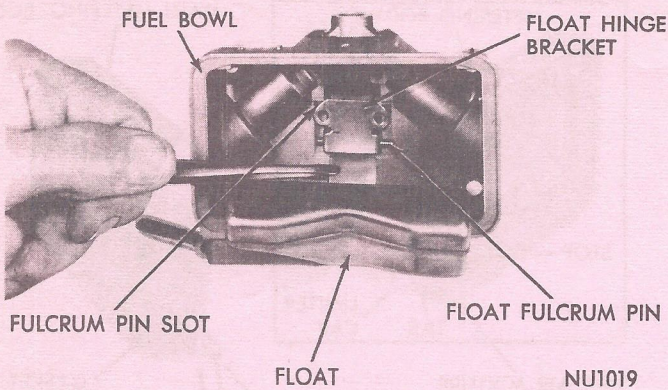

Fig. 20—Installing Float Assembly
(4) Slide float and hinge bracket in position in bowl, with fulcrum pin seated in slot. Install attaching screws and tighten securely (Fig. 20).